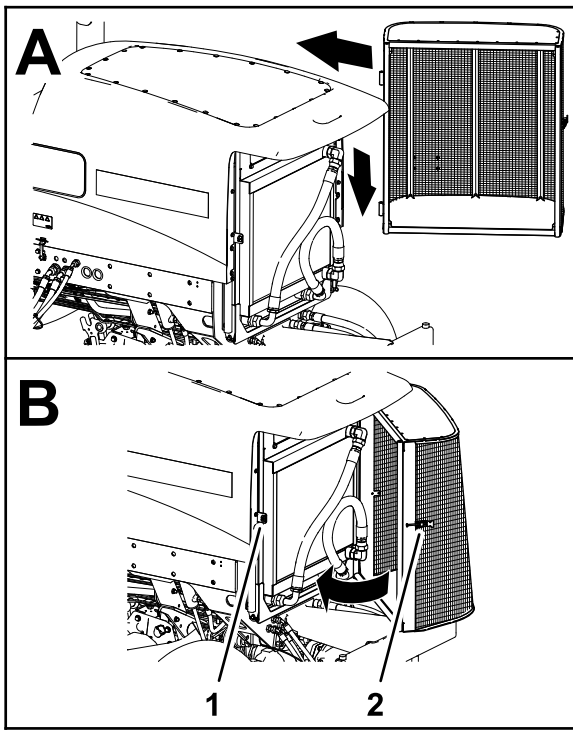

Figure 111
8. Assemble the screen onto the hinge pins (Figure 111).